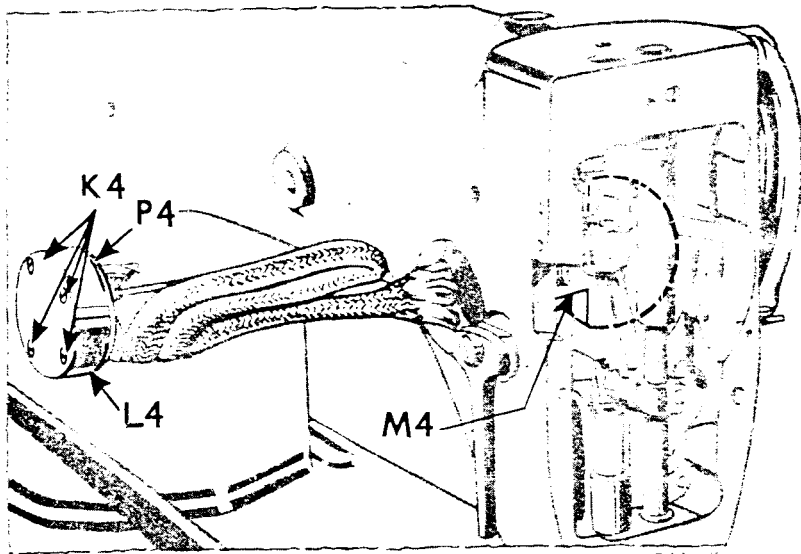

Fig. 63. Replacing Oil-Removing Wick and Holder in Head of Machine
1. Turn machine pulley over toward operator until the needle bar crank is in the position shown at **M4**, Fig. 63.
2. Fold oil-removing wick along the side of the holder body, as shown in Fig. 63 and insert oil-removing wick, holder and hinge plate into head of machine.
4. Securely tighten the four screws **K4**, Fig. 63.